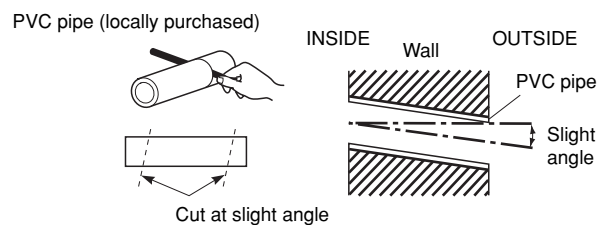

Fig. 3-103
- (9) Measure the thickness of the wall from the inside to the outside and cut PVC pipe at a slight angle to fit. Insert the PVC pipe in the wall. (Fig. 3-103)